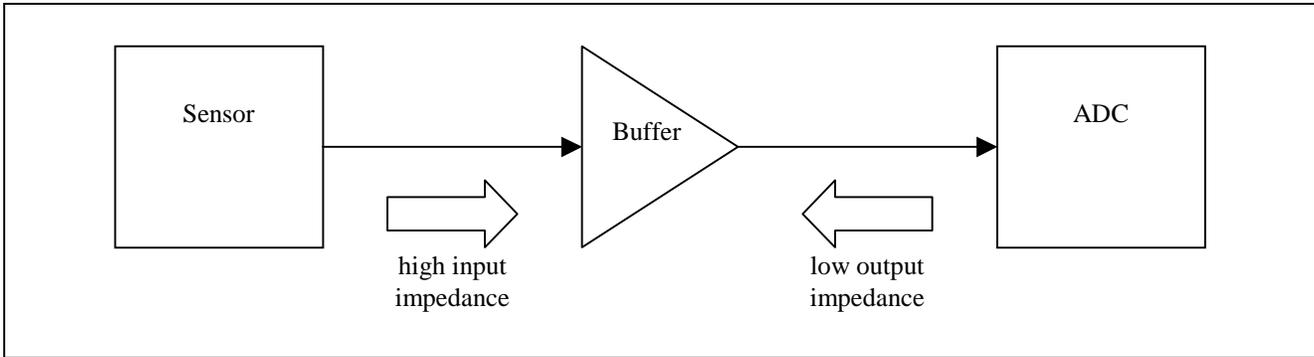

Figure 14 Signal Isolation
- A low-impedance buffer should be inserted when converting a high-speed analog signal as shown in figure 14. The buffer provides a high-impedance for the sensor and a low-impedance drive for the ADC.